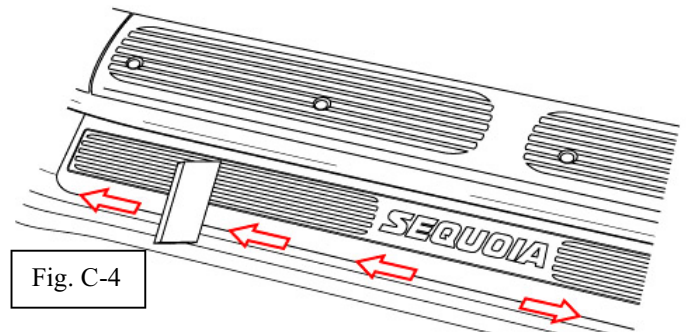

Fig. C-4
- ➡ 6. Using a felt block, slowly squeegee the applique to the vehicle over the vertical surface starting in the center and working out to each end with smooth overlapping strokes. (Fig C-4)